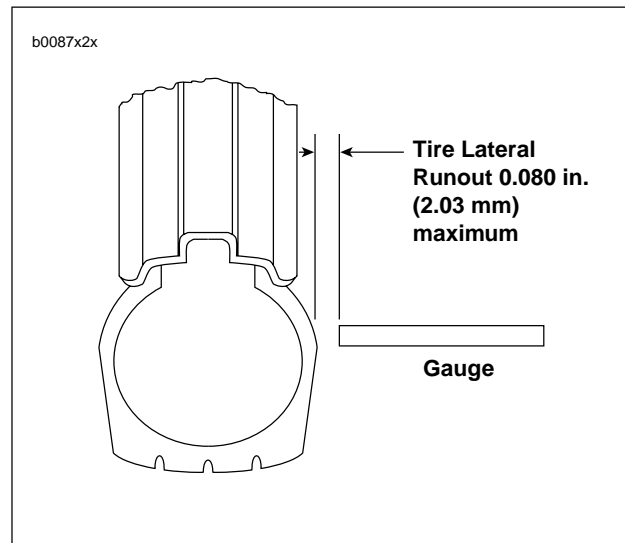

Figure 2-14. Checking Tire Lateral Runout
1. See Figure 2-14. Turn wheel on axle and measure amount of displacement from a fixed point to tire side-wall.